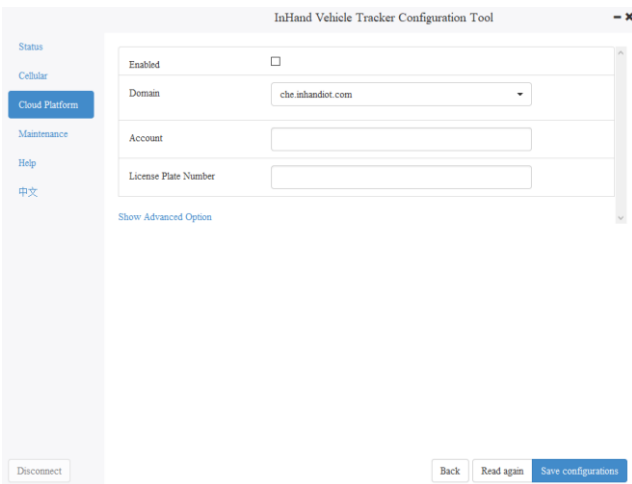

Figure 6-2
Step 2: If you select the Smartfleet platform, select **Enabled** and set the **Domain**, **Account**, and **License Plate Number** parameters. Click **Save configurations** and restart the device. If you set the **Domain** parameter to **user-defined**, you need to enter a custom domain name as required. Figure 6-2 shows the configuration page.